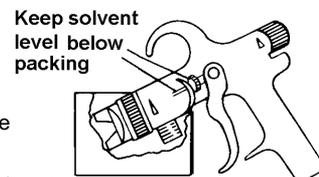

fig. 2
- 5.1.3. Do not immerse the entire gun in solvent. This will cause lubricants to dissolve and packing to dissolve and dry out (fig.2).